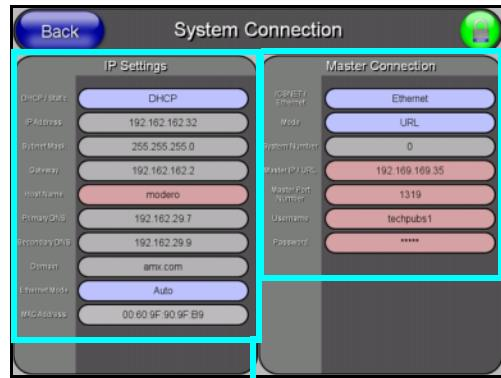

FIG. 6 Sample System Connection page
7. Repeat step 3 to access the Protected Setup page and touch the **System Connection** button to open the System Connection page (FIG. 6).